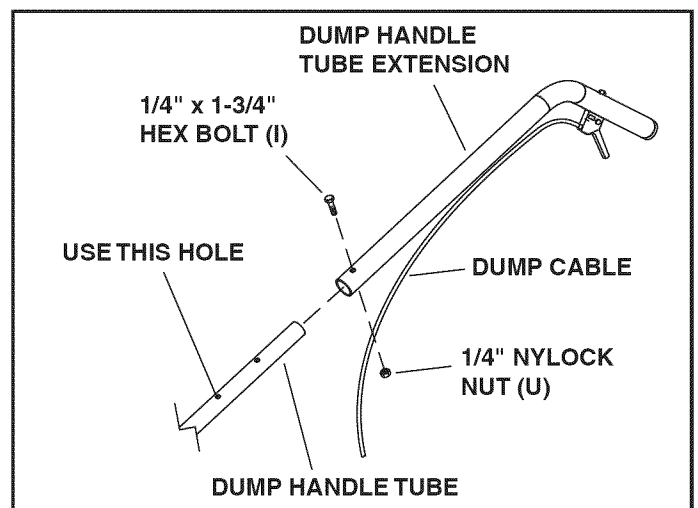

FIGURE 15
STEP 16: INSTALL DUMP HANDLE TUBE EXTENSION (SEE FIGURE 15)
- Install the dump handle tube extension on the dump handle tube using a 1/4" x 1-3/4" hex bolt (I) and 1/4" nylock nut (U).
- Attach the dump cable to the dump handle tube using three cable ties (RR).